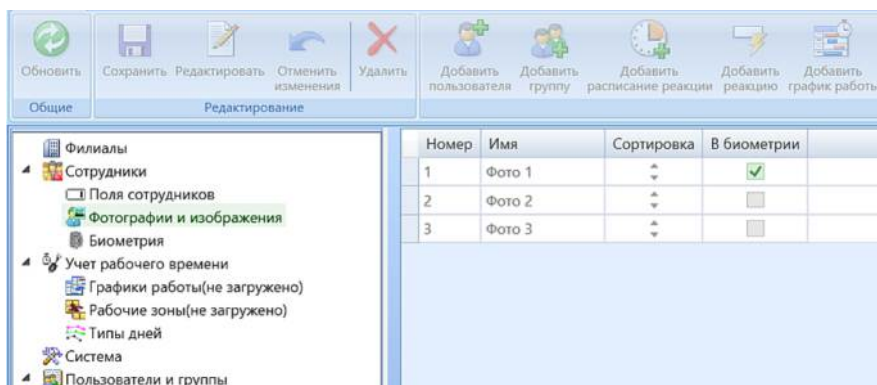

Fig. 5. Selecting a reference employee photo for recognition
1. In the “Photos and Images” section through the “Edit” button, check the box for the employee’s photo that will be used for face recognition (Fig. 5). Check only one photo.